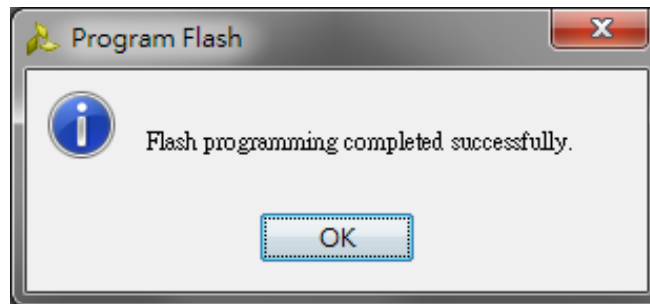

Figure 16. Flash programming completed successfully
- ❖ Wait a few minutes for showing the message "Flash programming completed successfully" as Figure 16.